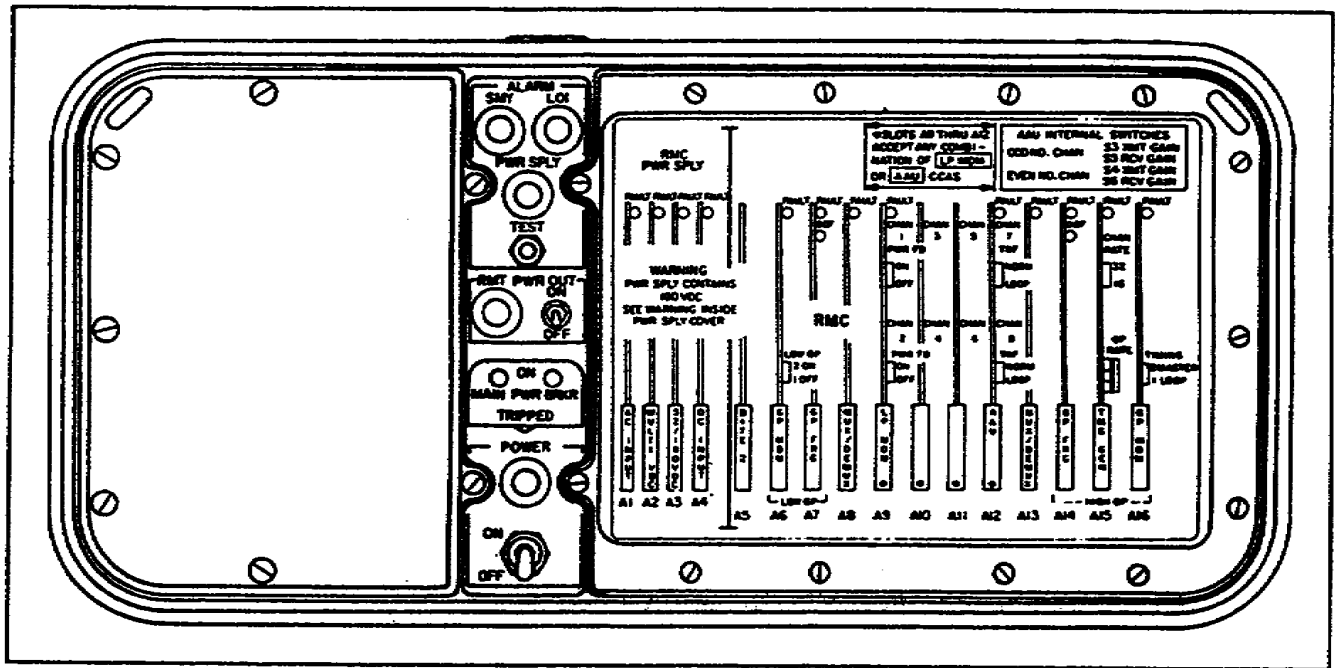

Figure 1-26. TD-1234/TT (front).
43. Another terminal or terminals you might have to install before installation of a telephone set are the TD-1233/TT and the TD-1234/TT. These two pieces of equipment go with DGM equipment. (See Figures 1-26, 1-27, 1-28, and 1-29 to view the equipment front and back. You must be familiar with both sides.)